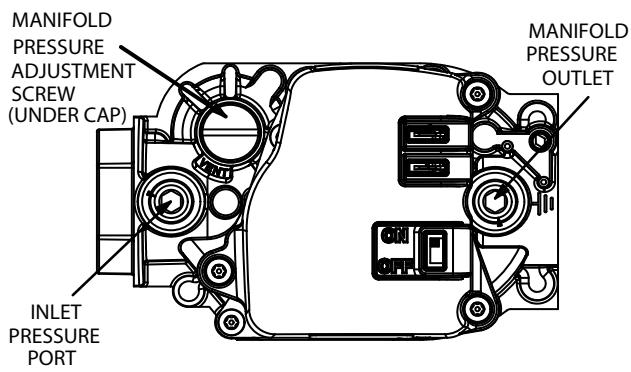

Figure 52
Gas Valve Operation (Figure 52)
6. Move gas valve switch to **OFF**. See Figure 52.
8. Move gas valve switch to **ON**. See Figure 52.